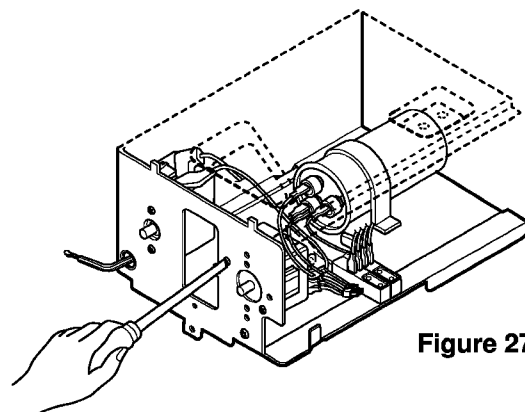

Figure 27
6. Re-install the components by referring to the above removal procedure. (See Figure 27)